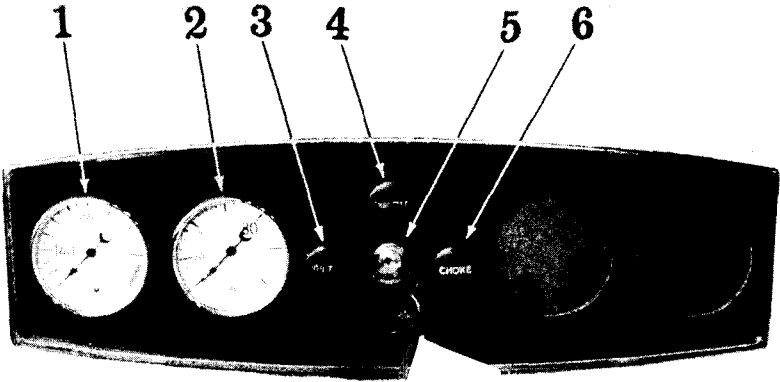

Fig. 2 - Instrument Panel
7. INSTRUMENT PANEL - See Figure 2.
**INSTRUMENT PANEL - (Fig. 2)**
3. **IGNITION CONTROL (I)** - Pull out to advance spark and push in to retard spark.